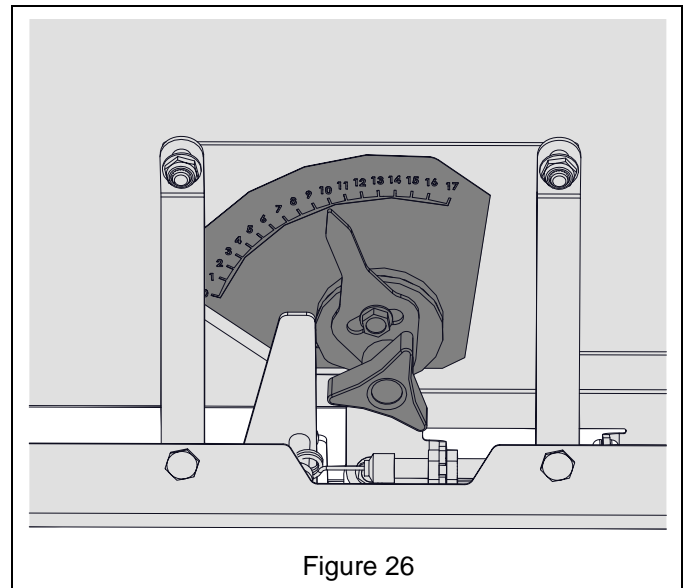

Figure 26
4. Set seed rate. See Figure 26.